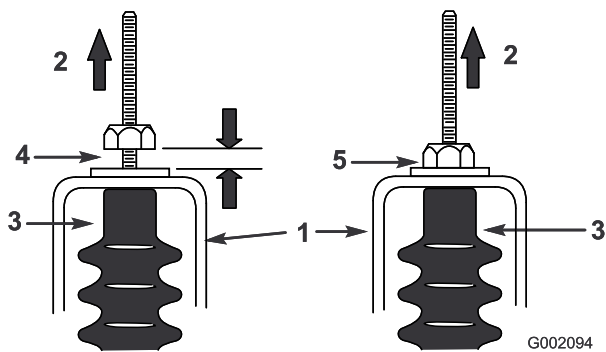

Figure 29
5. Pull up on each shift cable and ensure that there is a 0.03-0.06 inch (0.76-1.52 mm) gap between the nut/washer and the neutral bracket (Figure 29). If there is not a gap adjust the nuts to achieve a gap of 0.03-0.06 inch (0.76-1.52 mm).